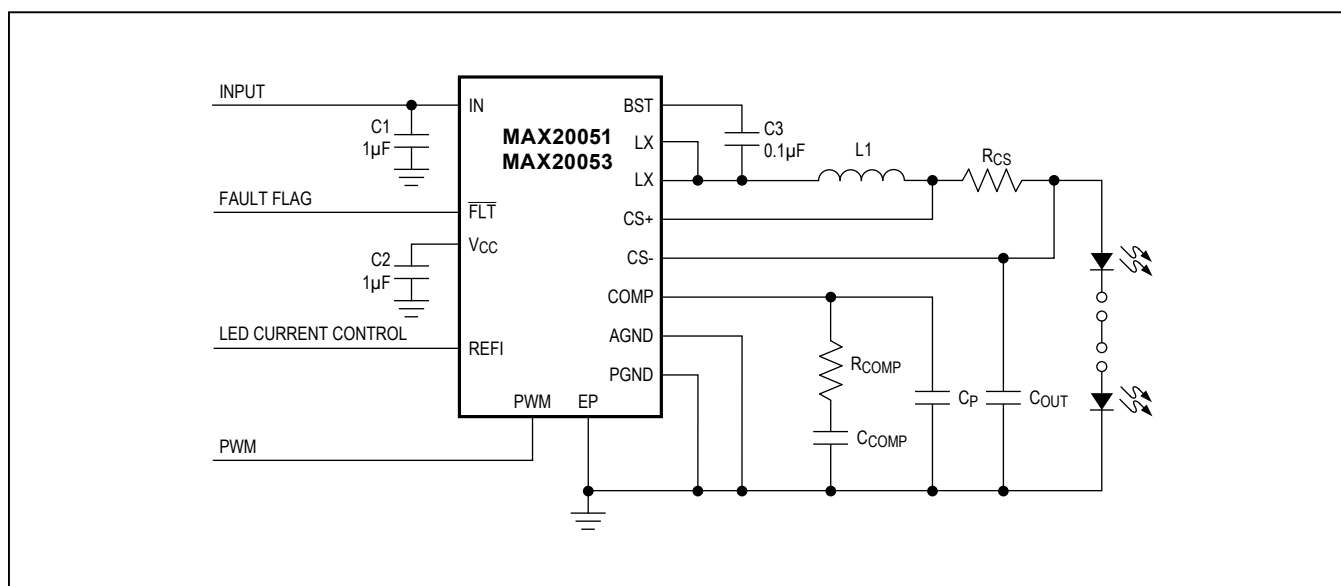

Figure 4. Typical Application Circuit Using the MAX20051
Normal sensing of the LED current should be done on the high side where the LED current-sense resistor is connected to the inductor. The other side of the LED current-sense resistor goes to the anode of the external LED string. The LED current is programmed using RCS (see Figure 4). When REFI is set to a voltage >1.3V, the internal reference regulates the voltage across RCS to 220mV. The current is given by:
| Output Capacitor Range (C7)                                   |  | V IN = 12V (typ), Figure 4 | 0.22 | 4.7 | μF |
| Inductor Range (L1)                                           |  | V IN = 12V (typ), Figure 4 | 22   | 33  | μH |
| Output Capacitor Range (C7)                                   |  | V IN = 12V (typ), Figure 4 | 0.1  | 4.7 | μF |
| Inductor Range (L1)                                           |  | V IN = 12V (typ), Figure 4 | 3.3  | 10  | μH |
The MAX20050/MAX20052 have internal loop compensation and there is no user-available adjustability of the loop compensation components. In the case of the MAX20051/MAX20053, an external COMP pin is present and an external compensation network is required for stable operation. See Figure 4 for the typical application circuit using the MAX20051.
- 1) Large switched currents flow in the IN and PGND pins and the input capacitor C1 of Figure 4. The loop formed by the input capacitor should be as small as possible by placing this capacitor as close as possible to the IN and PGND pins. The input capacitor, device, output inductor, and output capacitor should be placed on the same side of the PCB and the connections should be made on the same layer.